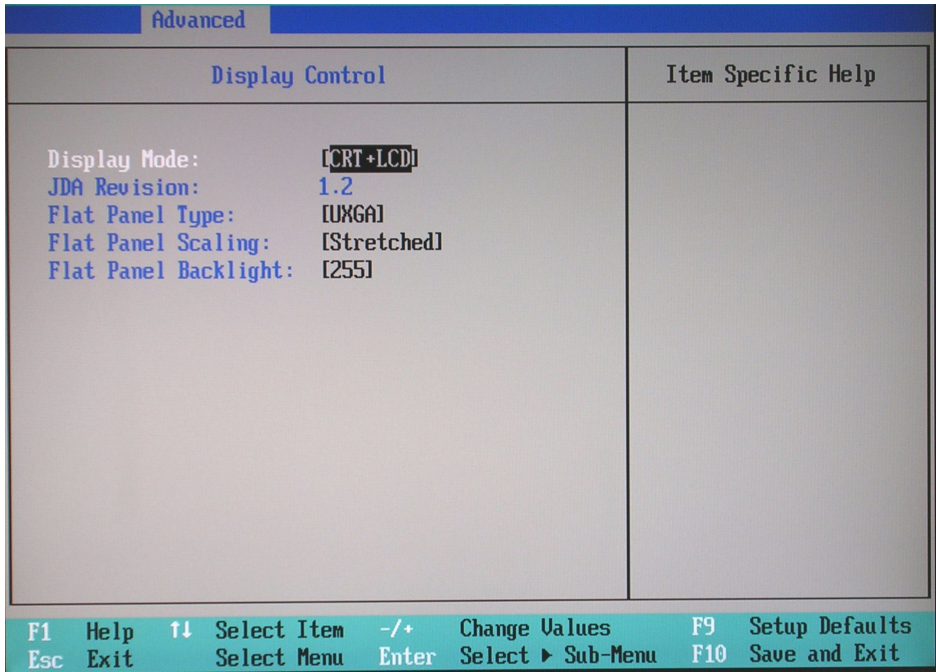

Figure 8-119 BIOS Advanced Display Control Parameters
Display Control	Figure 8-119 on page 8-118
- 24.) Set the parameters in the **Display Control** screen as shown above in Figure 8-119.